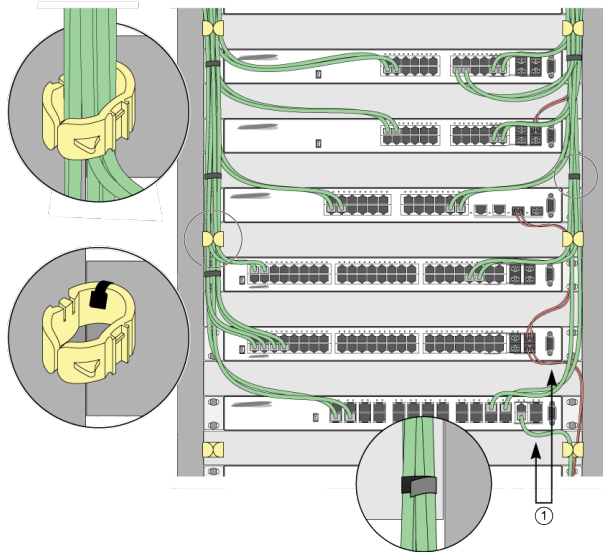

Figure 42: Properly Installed and Bundled Cable
- Provide enough slack, approximately 5 to 7.5 cm (2 to 3 in), to provide proper strain relief as shown in Figure 42 on page 80.
- When installing a patch panel using twisted pair wiring, untwist no more than 2.5 cm (1 in) of the cable to avoid radio frequency (RF) interference.